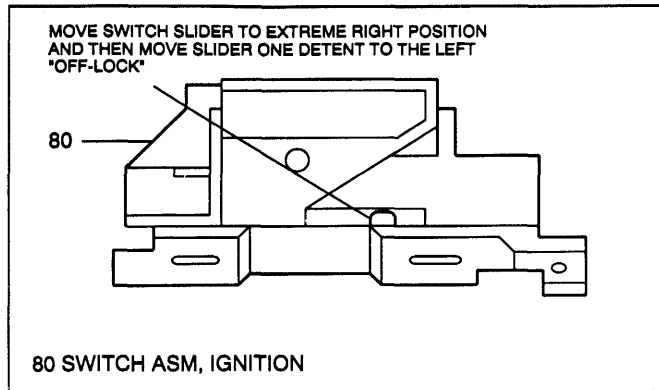

Figure 24 - Adjusting Ignition Switch
NOTICE: Install ignition switch (80) to jacket (73) with switch in "OFF-LOCK" position. (See Figure 24) New ignition switch will be pinned in "OFF-LOCK" position. Remove plastic pin after switch is assembled to column. Failure to do so may cause switch damage.
- Ignition switch assembly (80). (See Figure 24)
2. Ignition switch assembly (80) and mounting stud (81).